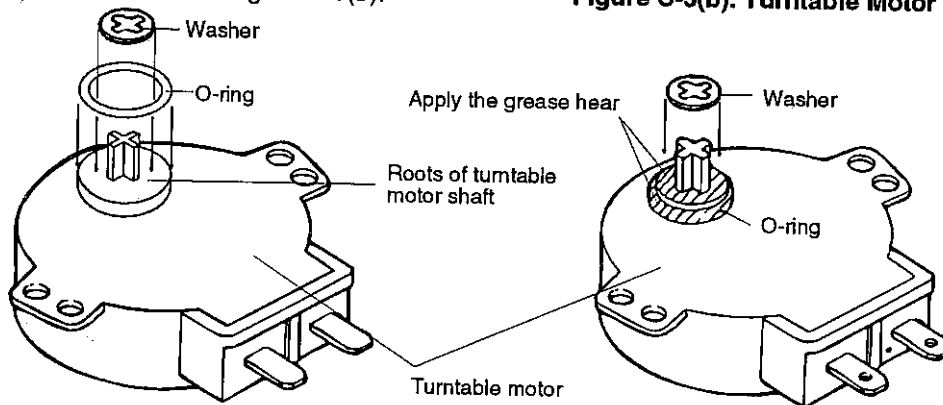

Figure C-4. Washer and O-ring Installation and Grease Applying.
4. Appply the grease (Shinetsu silicone grease G-420 of Sinetsu Chemical Co. Ltd. or Toray Silicone grease SH-14 of Toray Silicone Co., Ltd.) to the O-ring and the roots of the turntable motor shaft as shown in Figure C-4.
5. Re-install the turntable motor with the O-ring and washer to the oven cavity with the single (1) screw.